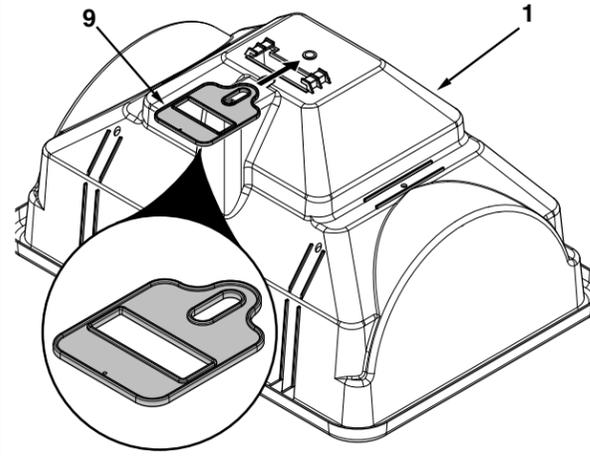

Figure 1
STEP 1 (SEE FIGURE 1): Attach the flow plate (9) to the hopper (1) as shown in figure 1.